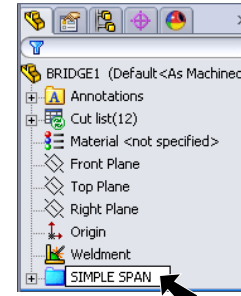

Fig. 32
Step 2. Key-in **SINGLE SPAN** for folder name, **Fig. 32**.